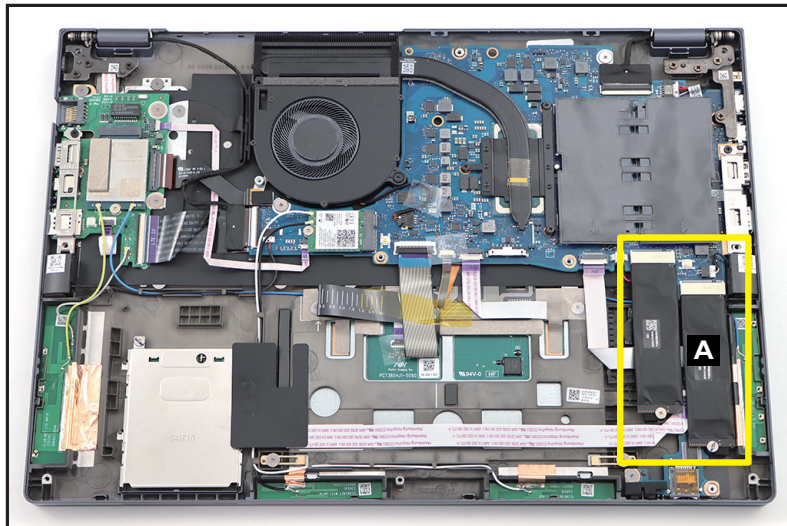

Figure 1-31. SSD Modules Location
1. Find the SSD modules (A) on the top assembly (Figure 1-31).